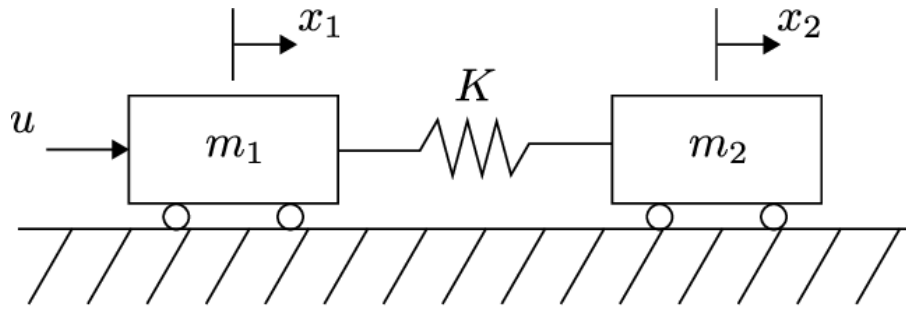

Figure 1: The two-mass-spring system.
2. **Motion planning of a two-mass-spring system.** Consider the underactuated system (ie it has one control input for 2 degrees-of-freedom) of two masses coupled by a spring, as represented in Figure 1, and modelled by
¹Each mass coordinate have their own origin, ie the position 0 is meant from their position at rest, separated by the spring, see Figure 1.